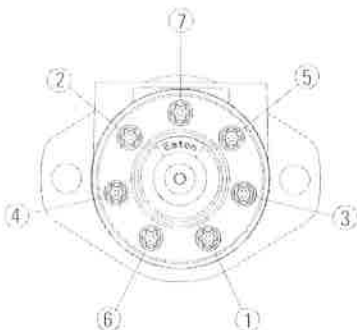

Figure 18
35. Install cap screws and seal washers (if applicable) in end cap. Pretighten screws to 7.4 Nm [40 lb-in]. Make sure seal washers are properly seated. Then torque screws 27-28 Nm [235-250 lb-in] in sequence, as shown in figure 18.